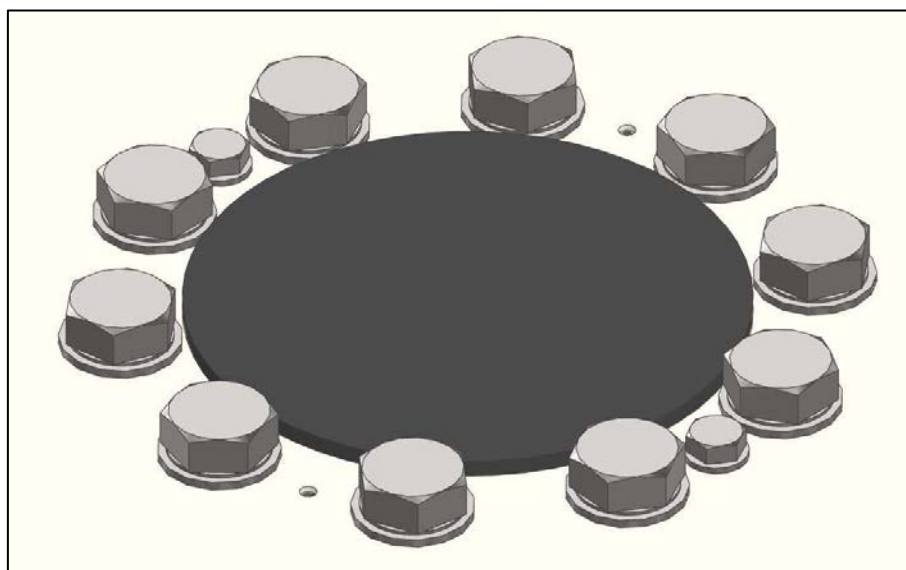

Figure 2.22: cover plug
**ATTENTION:** if the cover plug [31] has been supplied, install it; if it is already installed, make sure it is positioned correctly and forced in its housing (see figure 2.22).